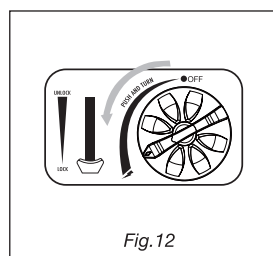

Fig. 12
6. You can now turn on the unit. Turn the control knob anti-clockwise until you hear a 'Click'. Repeat if necessary after waiting 20 seconds. (Fig. 12)